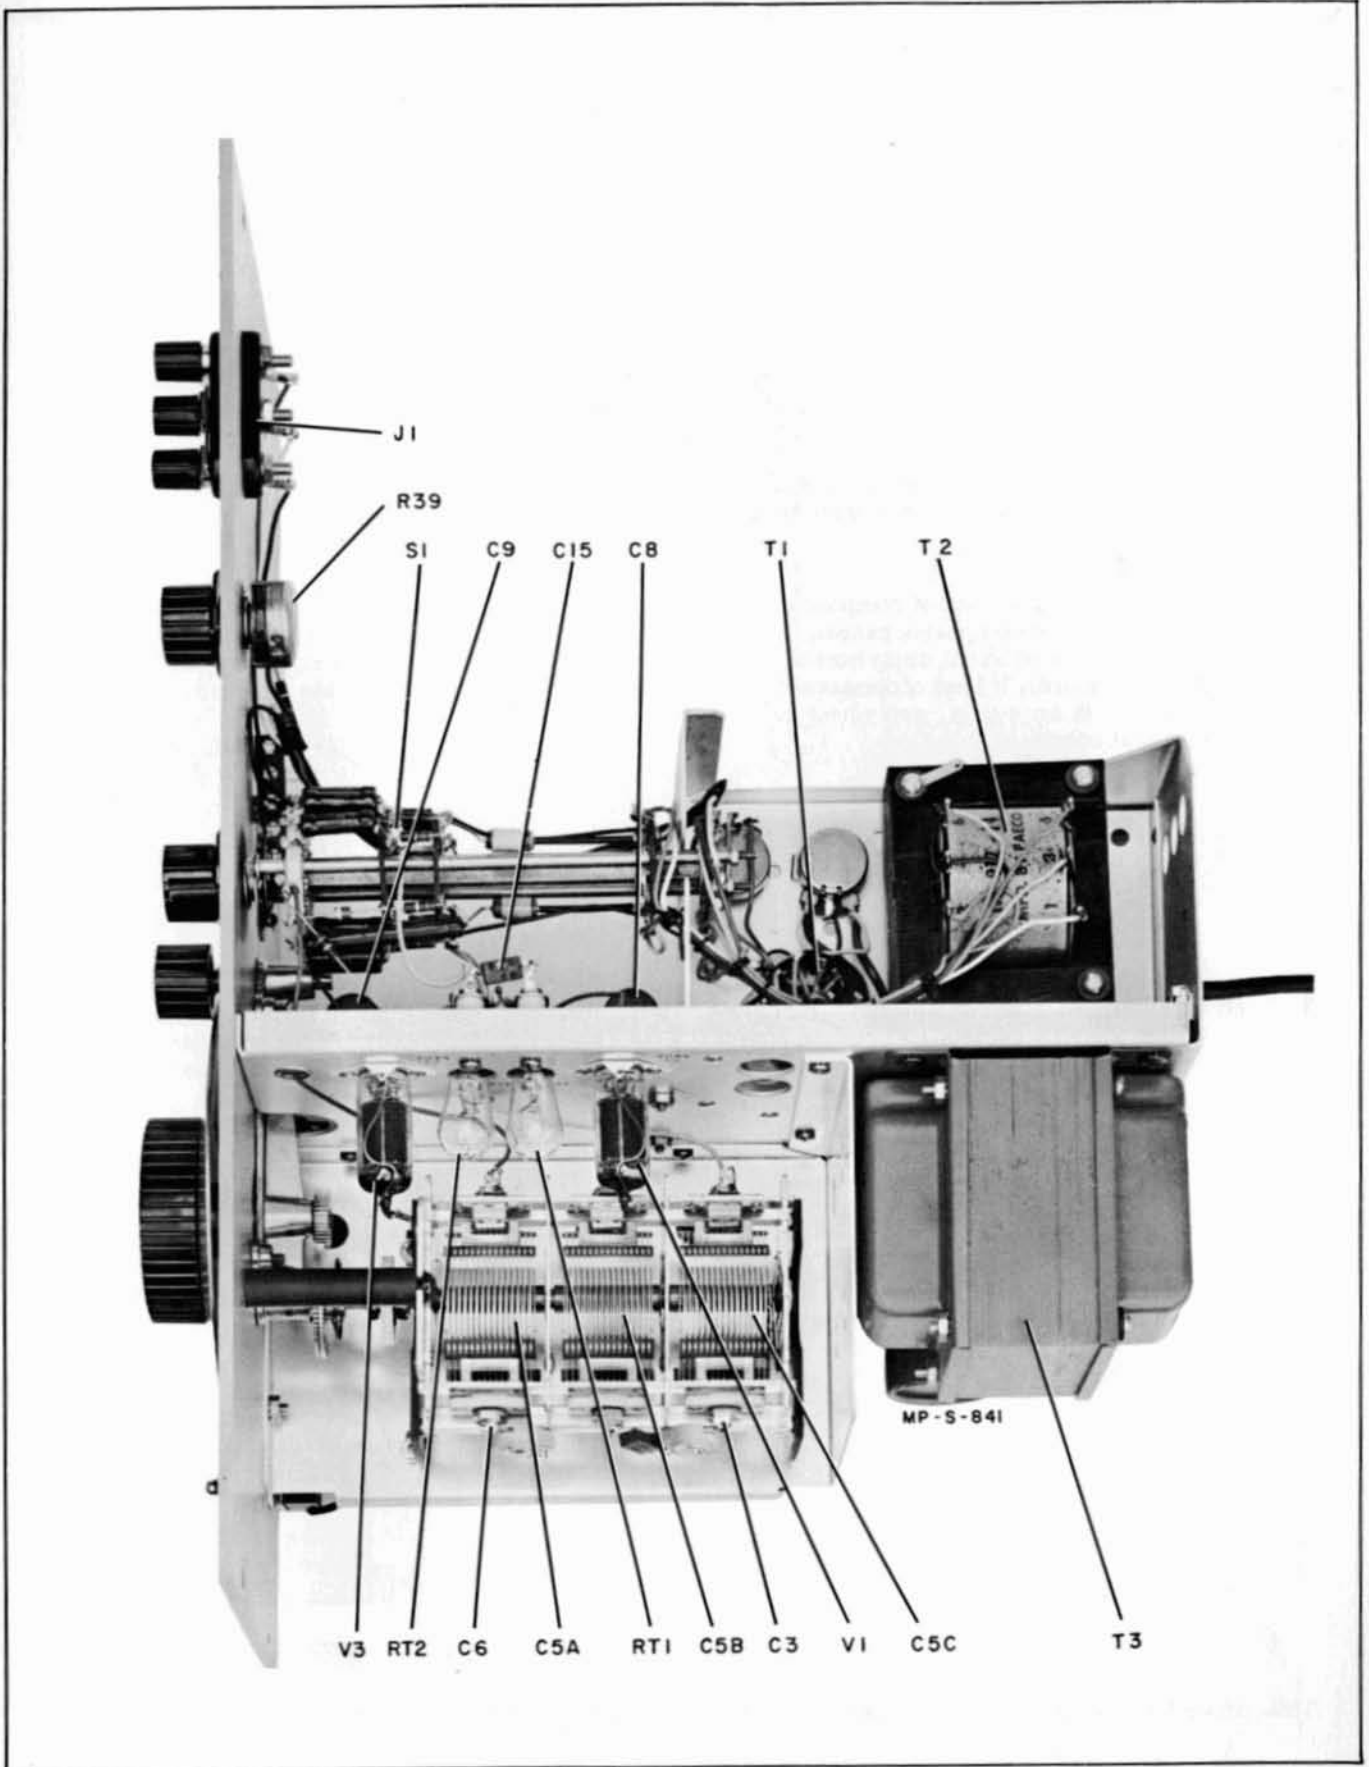

Figure 4-7. Right Side View Model 200S
- d. Using the 412A, 410B Electronic Voltmeters, or other suitable voltmeter, measure the positive and negative power supply voltages using ground as a reference. The positive voltage (approximately 225 volts) may be measured between the chassis and C14. The negative voltage (approximately 155 volts) is measured from the chassis to the junction of R30, R31 and R40 (figure 4-7). The difference between the negative and positive voltage should be 380 volts \pm 75 volts.